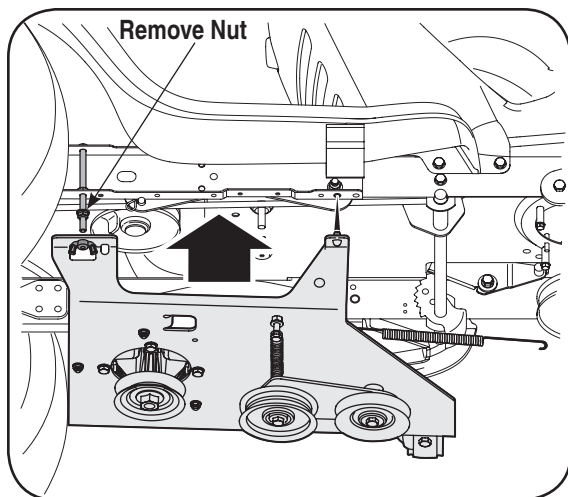

Figure 21
2. Remove the nut from the rear undercarriage mounting stud located on the tractors frame rail on the right side of the tractor. See Figure 21.